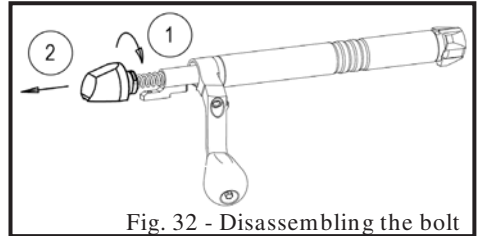

Fig. 32 - Disassembling the bolt
1. Hold the bolt body firmly and then carefully turn the bolt shroud clockwise approximately $\frac{1}{4}$ turn (1, (Fig. 32).
2. When the bolt shroud disengages, the firing pin assembly can be pulled out of the bolt body (2).